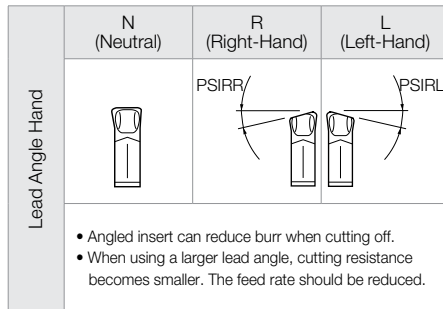

Fig.1
- 1) Use a neutral angle insert, when remaining boss is not a concern. (See Fig.1)